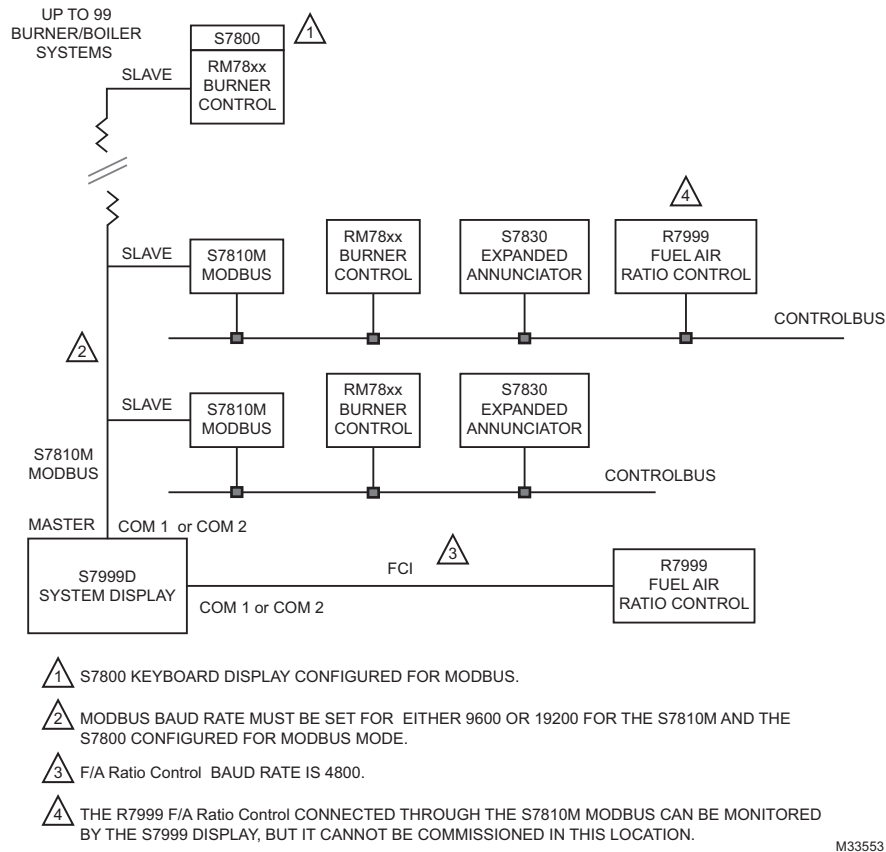

Fig. 2. Example for commissioning the Fuel/Air Ratio Control.
The other COM port has several options or can be disabled. In the example below, the other COM port has been set up for one or more boiler system. (See Fig. 2 & 3 for examples).
The S7999D manages a series of Modbus™ nodes (up to 99 addresses) consisting of 7800 SERIES Burner Controls, ControLinks™, and UDC devices (see Fig. 2).
8. TO PROTECT AGAINST CONDUCTED AND RADIATED TRANSIENT NOISE, USE CLAMP FILTERS (INCLUDED IN 50063482-001 BAG ASSEMBLY) AS ILLUSTRATED IN FIGURES 2 AND 3.